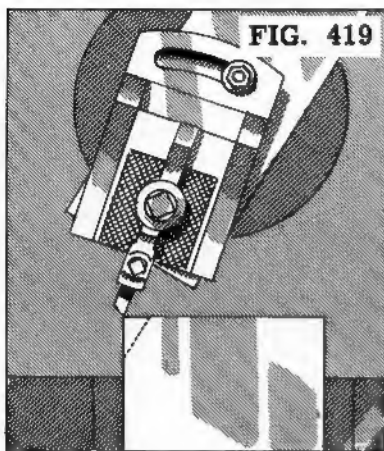

FIG. 419
5. Position the table until the corner of the work is directly below the moving tool (Fig. 419).